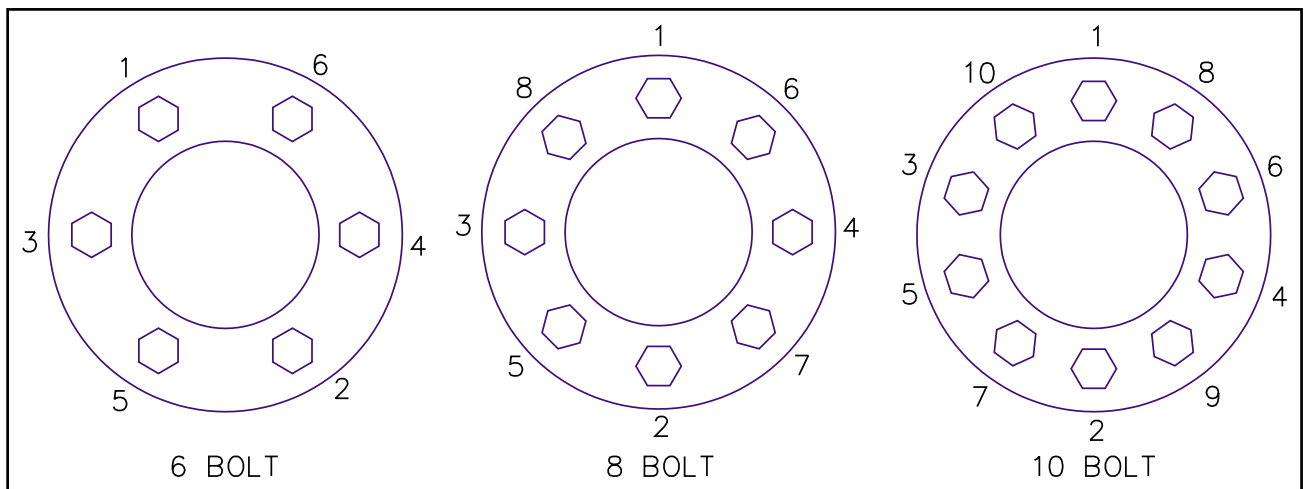

Figure 4-19 Stud Tightening Sequence
- c. For ball seat mounted wheels only, install the inner capnuts on the studs and tighten to fifty foot-pounds using the sequence illustrated in Figure 4-19. Make certain that the left-handed threads are installed on the driver side of the vehicle and the right-handed threads are installed on the curbside of the vehicle.
- d. Tighten the inner capnuts to full torque of 450 to 500 foot-pounds using the sequence shown in Figure 4-19.
- g. Install the outer capnuts (ball seat) or flange nut (pilot mount) and tighten to 50 foot-pounds using the sequence in Figure 4-19. Then tighten to full torque of 450 to 500 foot-pounds for ball seat and 500 to 550 foot-pounds for pilot mount, using the same sequence.
- e. After they are properly seated, tighten the rim nuts one-quarter turn at a time, in the order illustrated in Figure 4-19 to a torque of 200 to 250 foot-pounds.
Improper tightening sequence: follow proper tightening sequence. (See Figure 4-19.)